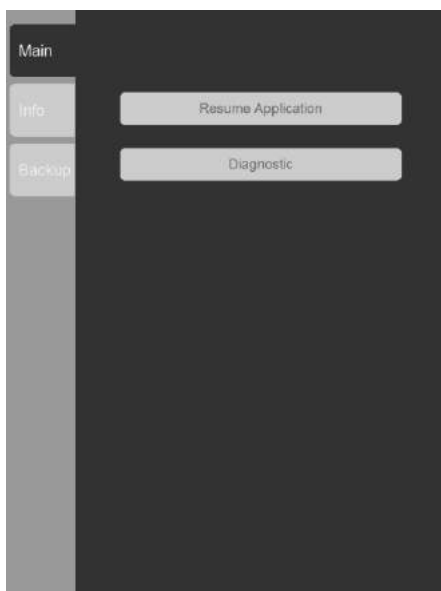

Figure 16.2. Service Menu Window
- Once the “**Service Menu**” is available (Figure 16.2), click on **Diagnostic** option in the **Main** tab.